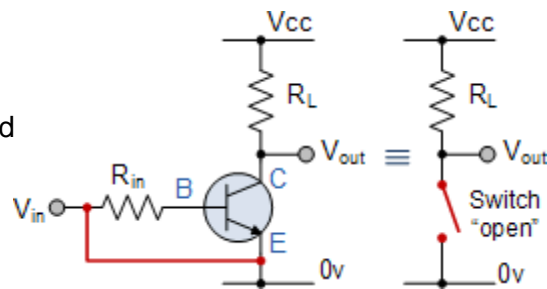

Figure 3.18 Cut-off mode
a) NPN transistor in cut-off mode (Figure 3.18).